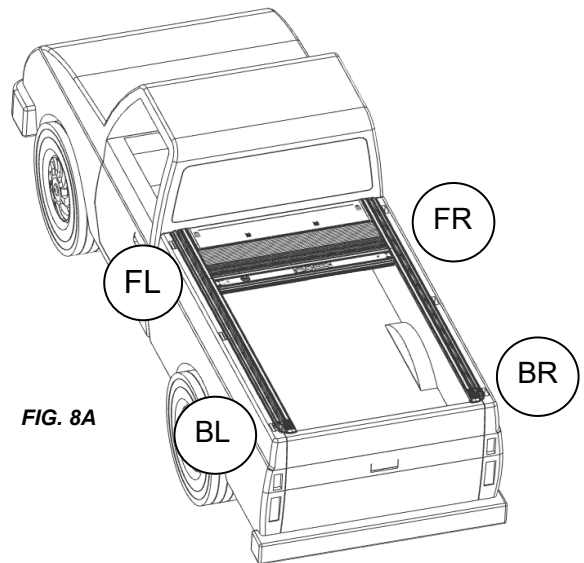

FIG. 8A
Slide the clamp extensions on the tailgate and cab end of each rail as pictured in Figure 8A-8E. Each clamp extension is labeled for front left (FL), front right (FR), back left (BL), and back right (BR). The extensions go on the corners shown in figure 8A.